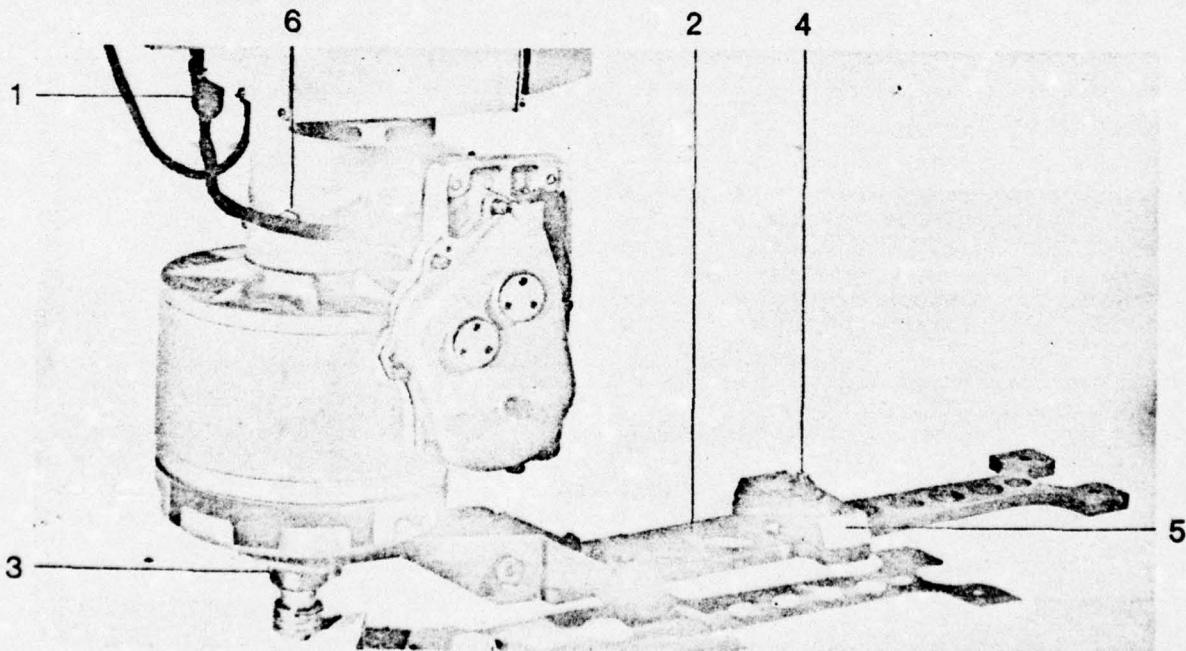
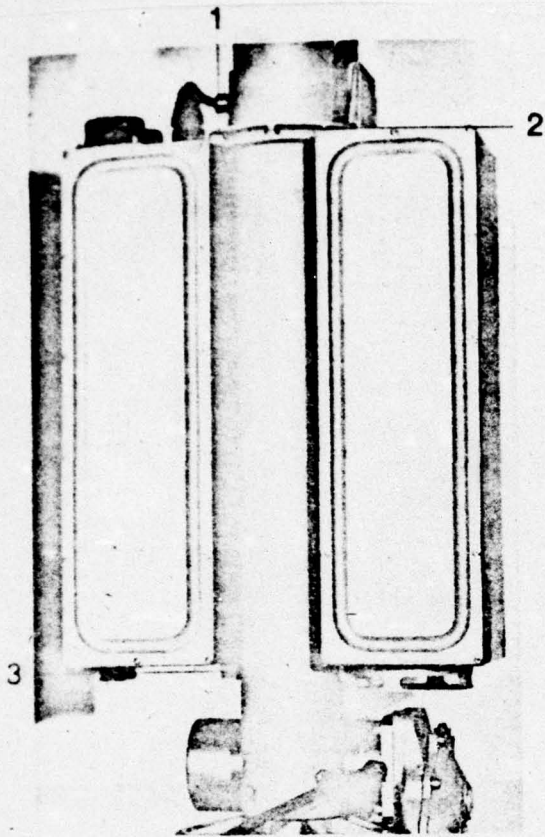
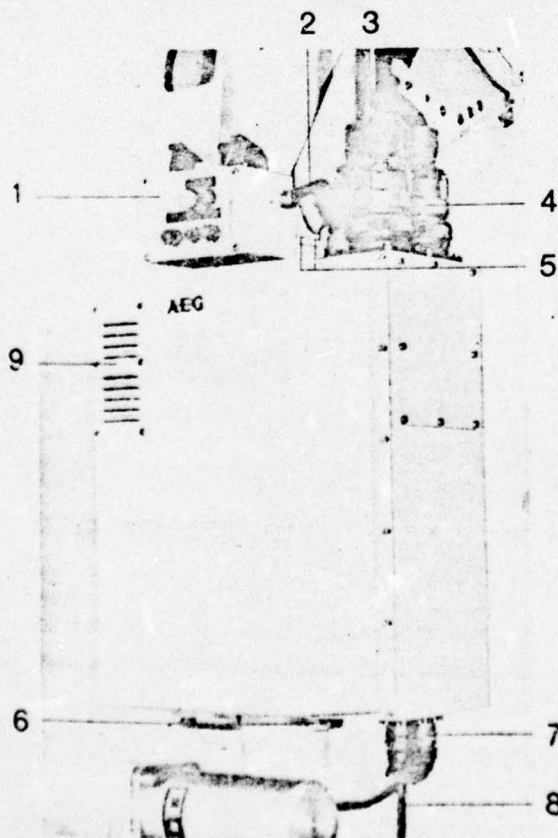
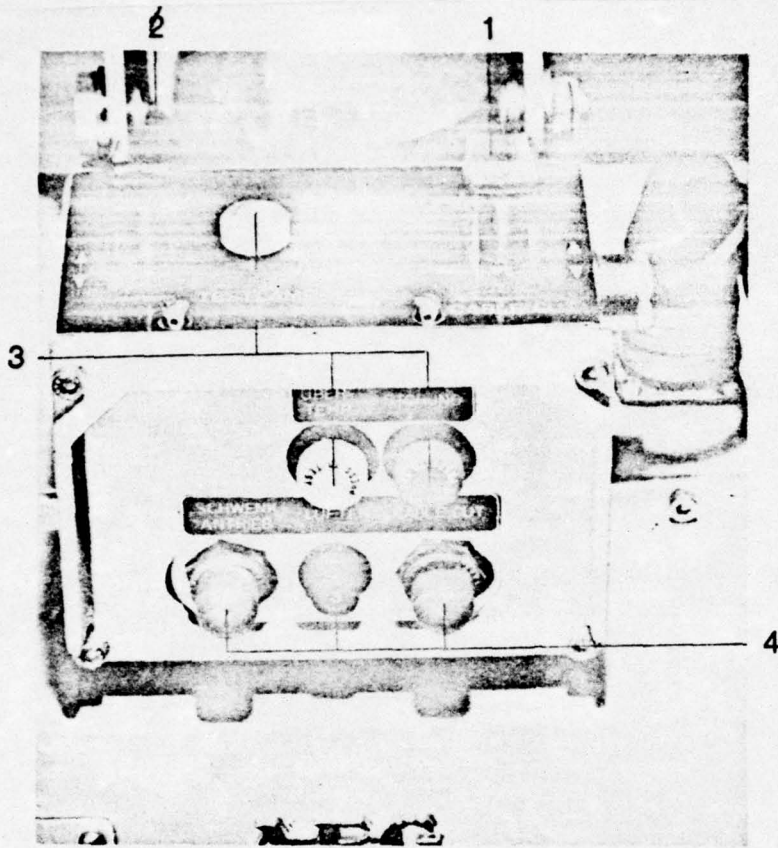

Figure 2.7
Figure 2.8
Figure 2.9
Figure 2.10
8. Check proper seat on lower fastening bolt and close lower quick-release fastener (Figure 2.7).
10. Check height adjustment of the jib by slewing in and out manually (swivel 2, Figure 2.7 not yet fastened on the cabin floor). The upper rubber strip of the door opening can be lightly contacted with proper adjustment.
11. Before fastening down the swivel, the tension piece (5, Figure 2.7) is to be installed in accordance with the selected installation position after unscrewing two countersunk screws M8 x 30 DIN 7991 using a hexagonal socket screw wrench  $s = 5$  mm on one of the two possible places on the swivel. Figure 2.7 shows the tension piece for the rear installation positions 2, Figure 2.1 and 4, Figure 2.1. Installation is to be made at the end of the swivel (cf. Section 2.1.1) for installation positions 1, Figure 2.1 and 3, Figure 2.1.
Thereupon, the swivel is folded over and the quick-release fastener (4, Figure 2.7) is again screwed tight using an open-end wrench or box-end wrench --  $s = 11/16$ ".
1. The electronic equipment box is set on the mast using two catches (3, Figure 2.8) on the lower side slanting from the top inwards in such a way that the catches grasp the supporting pins (6, Figure 2.9) extending out transversely on both sides of the mast.
At this point, the electronic equipment box is pressed against the mast, the clamping strap (2, Figure 2.8) slewed around the mast on the upper side and the captive pin (1, Figure 2.8) locked using a screwdriver by means of a  $90^\circ$  turn in the shim.
3. The connecting cable (1, Figure 2.7 and 7, Figure 2.9) solidly attached to the slewing gear is to be plugged into the electronic equipment box and screwed tight.
4. The connecting cable (4, Figure 2.9) well attached to the jib is to be plugged into the electronic equipment box and screwed down.
5. The manual control unit (5, Figure 1.1) is to be connected with the electronic equipment box using the 1.5 m long connecting cable (6, Figure 1.1 and 8, Figure 2.9).
6. The 2 m long connecting cable for power supply connection (7, Figure 1.1 and 3, Figure 2.9) is to be plugged into the electronic equipment box and screwed down.
The switch (1, Figure 2.10 and 2, Figure 2.10) located on the control unit for CABLE CUT and TEST as well as the CABLE CUT switch located on the HYDRAULIC CONTROL PANEL for the pilot must be closed and secured with thin copper wire before the equipment is switched in; otherwise, there is the danger of cable cut. For performance testing, the three safety switches located in the helicopter are first to be switched in and through which the 28 V-GS power supply is switched through to the socket.
If all itemized safety switches are activated, then the fan motors on the hoisting gear and on the electronic equipment box commence operation which can be acoustically checked. A perceptible flow of air comes out of both exhaust vents at the motor (Figure 2.5) and on the electronic equipment box (9, Figure 2.9). When operating normally, no one of the three indicator lights (3, Figure 2.10) installed on the control unit should light up. The equipment is now ready for operation.
The cable cutter provided with an electrically ignitable explosive charge can be actuated by two switches both provided with a red switch tab. The pilot's switch is located on the HYDRAULIC CONTROL PANEL whereas the hoist operator's switch is located above on the control unit of the electronic equipment box. The test elements are also arranged at the same point (Figure 2.10).
If the red lamp DISTURBANCE lights up on the control unit (Figure 2.10) during performance testing, it follows that the slewing gear drive is
The slewing motor is only designed for short-term operation and therefore unnecessary activity on its part is to be avoided. If this precaution is not observed, it is possible for the safety switch SLEWING DRIVE to be triggered in the control equipment (Figure 2.10). It can be pressed in again after a short cooling period. The slewing gear is then again ready for operation.
2.3.10 The cable cutting device is only to be actuated in case of danger. The actuation switch for the hoist operator is directly above on the control unit under a red cover flap and designated by CABLE CUT (Figure 2.10).